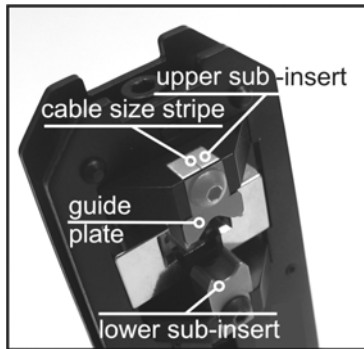

Fig.1.
- ❑ Fig.1. clarifies terms "upper sub-insert", "lower sub-insert" and "cable size stripes" necessary for correct tool preparation. Using the inappropriate combination of sub-inserts and cable size (O.D.) may result with false crimp, and tool damaging for which the manufacturer can not be held responsible.
- ❑ Always remember to reattach guide plate (Fig.1). Failing to do so may influence normal tool functioning.